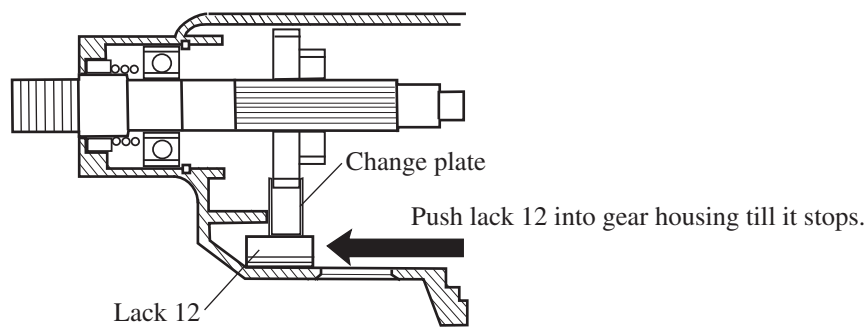

Fig.10
- (1) Push lack 12 into gear housing till it stops as illustrated in Fig.10.